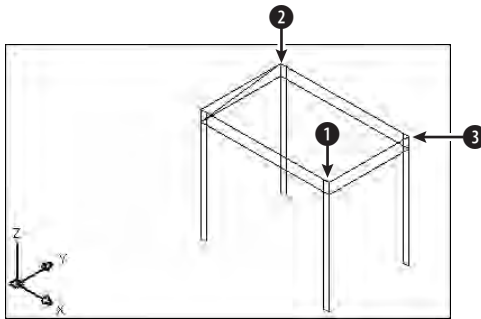

Figure 21-9: The piano bench after being shrunk with the STRETCH command
3. Choose Stretch from the Modify toolbar. Use a crossing window to select the right side of the bench. AutoCAD should find eight objects. End object selection. At the Specify base point or displacement: prompt, use the Endpoint object snap to pick ❶ in Figure 21-9. At the Specify second point of displacement: prompt, type `@-15,0 ↵`.
Specify first point: Choose ❷ in Figure 21-9.